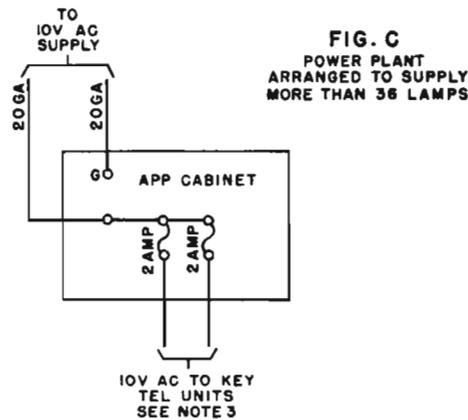
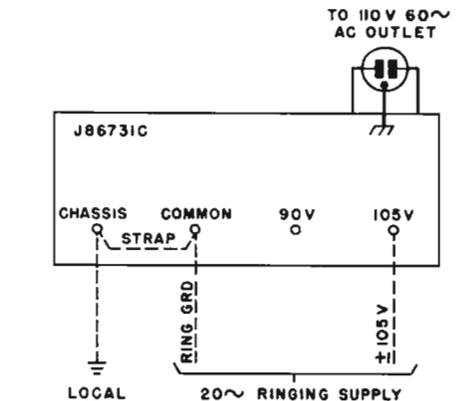

Fig. 3 - J86731A and D 101G Power Plants
Fig. 5 - J86731C 101G Power Plant
5.04 The 2-amp fuse in the 10-volt ac supply of the J86731A, Lists 4 and 6 101G power plants provides for a maximum of thirty-six 51A lamps. When two 2-amp fuses separated by brass washers are paralleled as illustrated in Fig. 3B, and connections are provided as shown in Fig. 3C, seventy-two 51A lamps may be supplied. The connections for the J86731A, Lists 4, 5, and 6 101G power plants are shown in Fig. 3.
5.06 The J86731C, List 1, and J86731D, List 1 101G power plants are arranged to mount in a KTU apparatus cabinet, or on relay rack, or in a key telephone system KSU. When the power plant is mounted in an apparatus cabinet, the ac power cord shall follow the same route within the cabinet as incoming cable. Fig. 5 gives the connections for the J86731C, List 1 or 2 power plant. Fig. 3 gives the connections for the J86731D, List 1 power plant.